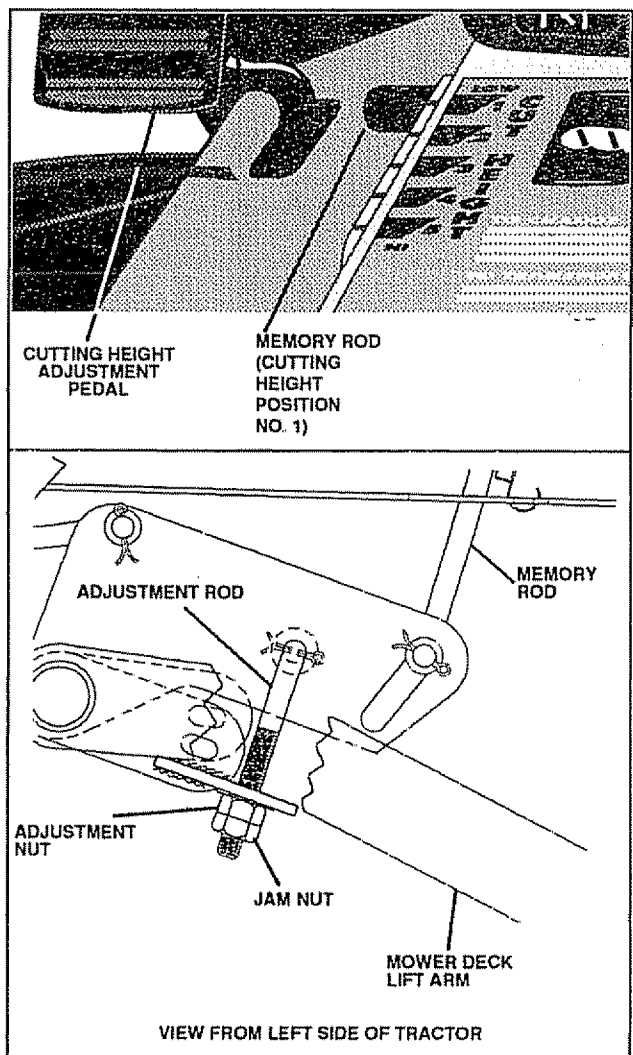

FIG. 27
TO ADJUST MOWER DECK HEIGHT (See Fig. 27)
- Locate adjustment nut near left mower deck lift arm (see Fig. 27).